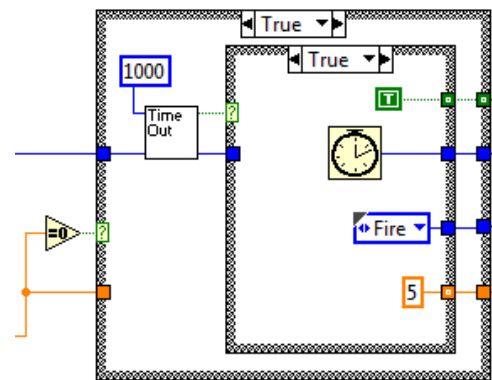

FIGURE 2.19
- Now consider the case that executes when Count reaches zero. Fig. 2.19 shows just that case structure with the True case visible. Note that we need the timer one more time, because we have to mark off the “zero” second in the countdown. So, to go with the Timeout VI, there is again a new, innermost case structure. The True case